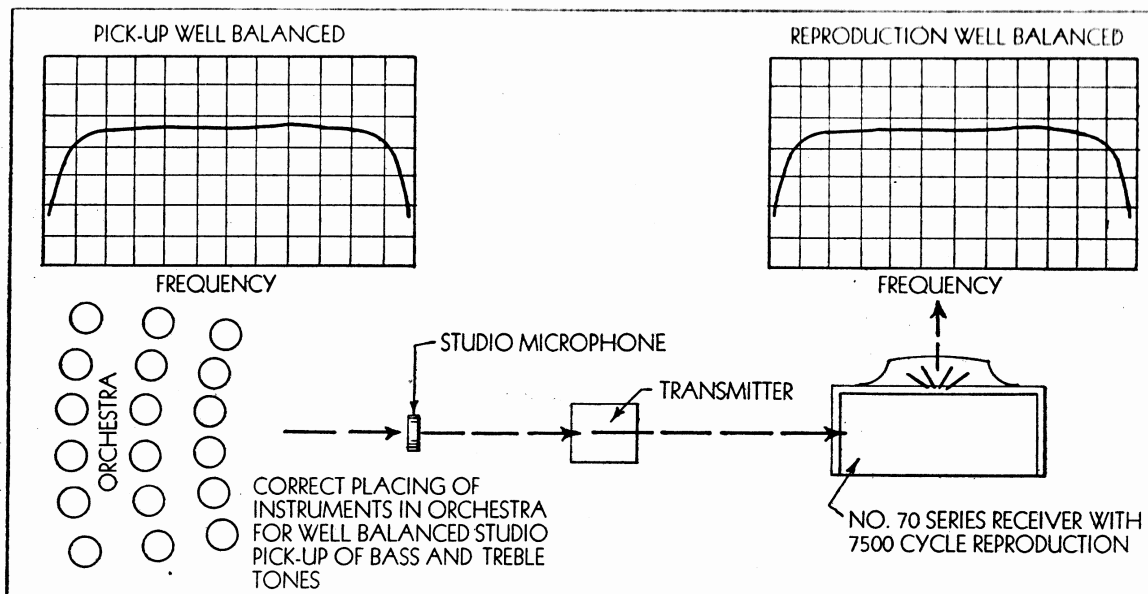
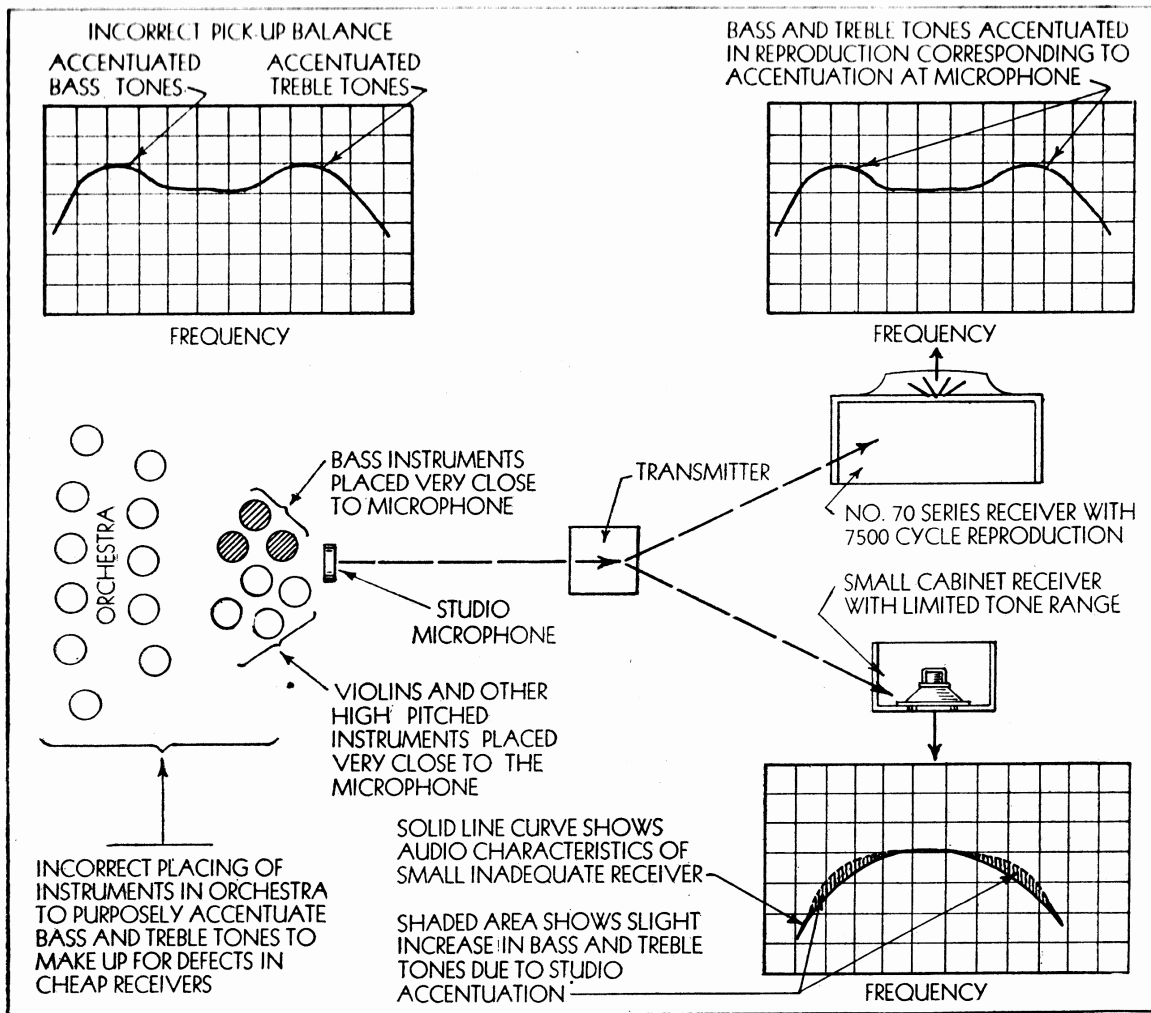

Fig. 45
Fig. 46
- (d) **Better Studio Technique** in the placing of musical instruments with respect to the microphone so as to obtain the same transmitted audio balance and variation in sound intensities as would be obtained if the program were intended for a listener in the studio. Fig. 45 shows that a well balanced studio pickup of an orchestra will be reproduced in the same good balance by a high fidelity radio of the No. 70 type. Fig. 46 shows the result of an attempt on the part of some broadcast studios to make up for shortcomings of midget and other inadequate radios (limited frequency range, see Figs. 22 and 23) by placing the bass and the high pitched instruments close to the microphone so as to send out over-accentuated low and high frequencies. On a high fidel-